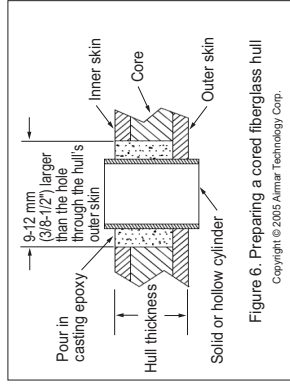

Figure 6. Preparing a cored fiberglass hull
- Drill a 3 mm or 1/8" pilot hole from inside the hull (see Figure 6). If there is a strut, or other hull irregularity near the selected mounting location, drill from the outside. (If the hole is drilled in the wrong location, drill a second hole in a better location. Apply masking tape to the outside of the hull over the incorrect hole and fill it with epoxy.)